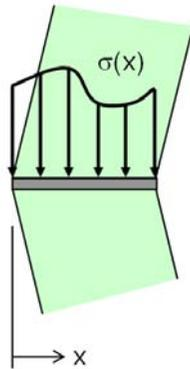

Figure 5: Epoxy joint between two shells of revolution.
- (c) Assume that the bowls are not hemispheres but rather two identical shells of revolution of $y = (7 \text{ in}) \sin [x\pi/(14 \text{ in})]$ for x between 0 and 14 inches with axis of revolution $x = 7$ inches. The bowls are sealed at the joint with epoxy (Figure 5). The wall thickness is 0.4 cm and the interior is 75% evacuated as before. What is the actual shape of the stress distribution $\sigma(x)$, and what is its average value?